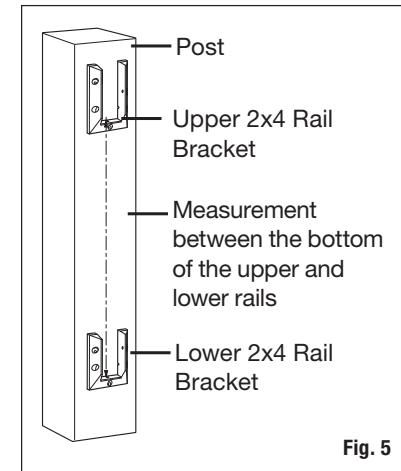

Fig. 5
- Measure the height of your fence for placement of the upper fence rail bracket. We recommend 26-1/4" spacing from the top of the bottom bracket to the bottom of the top rail bracket. Mark the center of the post by measuring the bottom of the lower fence rail to the bottom of the upper fence rail (fig. 5).